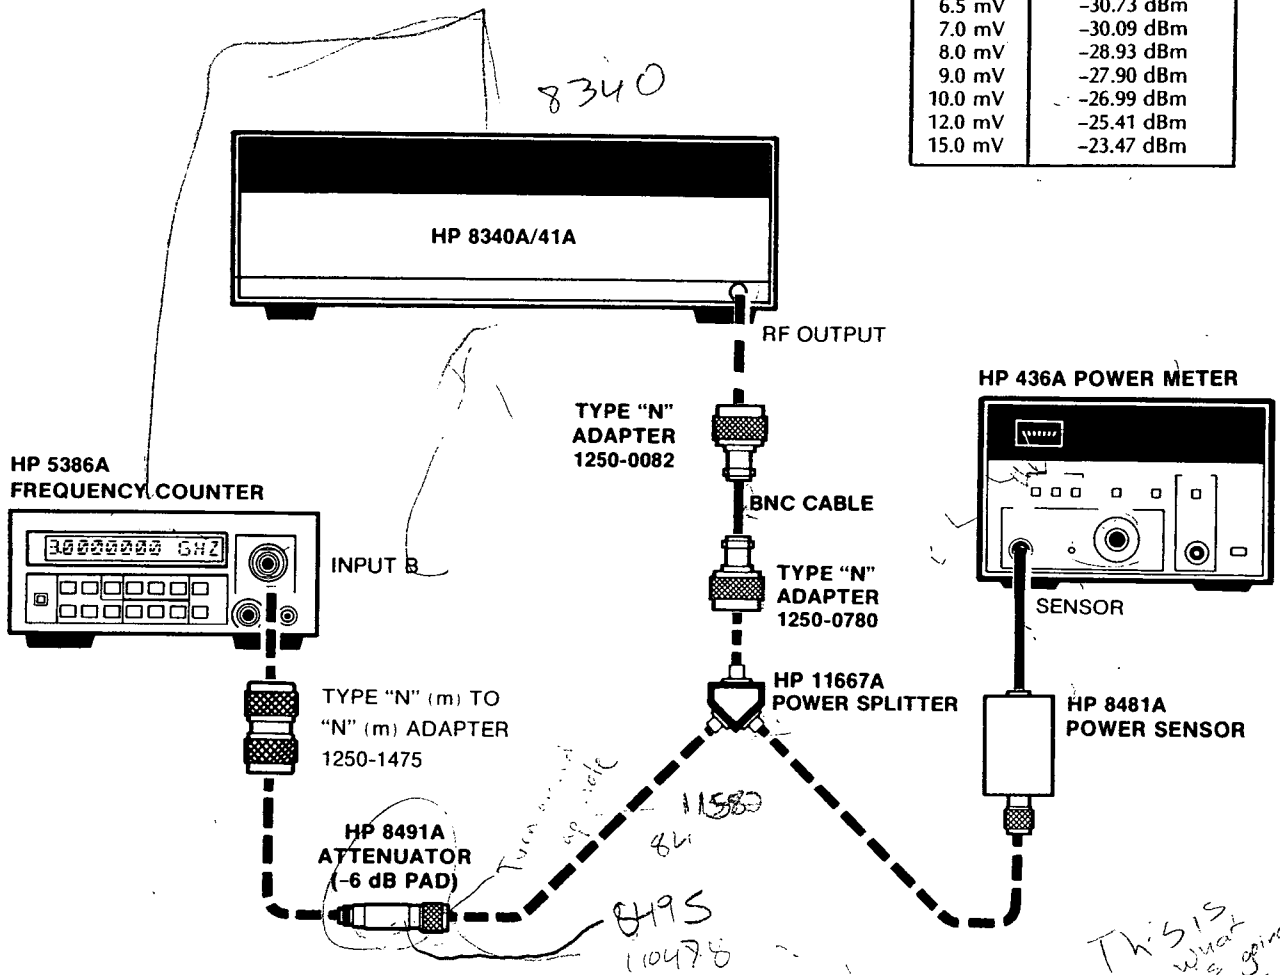

Figure 4-3. Channel B Frequency Response and Sensitivity Test Setup for HP 5386A
1. Connect the HP 8340 Synthesized Sweeper and the power meter to the HP 5386A channel B input as shown in Figure 4-3.
1. Connect the HP 8340A Synthesized Sweeper and power meter as shown in Figure 4-3.